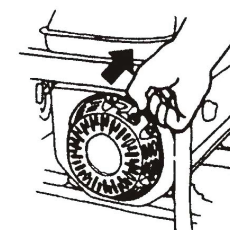

Figure 31
4.1 Start the generator (Figure 31)